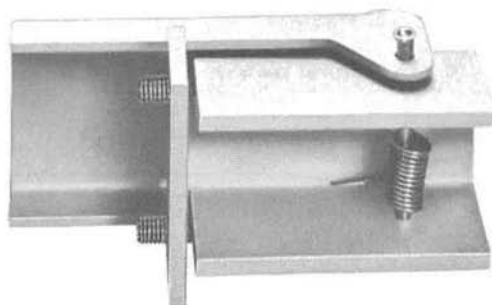
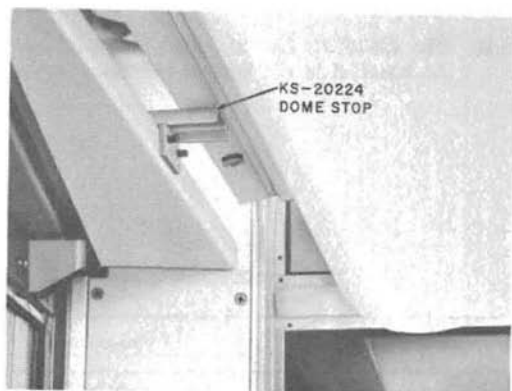

Fig. 2—KS-20224 Dome Stop
Fig. 3—KS-20224 Dome Stop, Installed
2.09 A KS-20224 dome stop (Fig. 2), a spring loaded device, is available to mount along the door track (Fig. 3) to prevent the dome from falling when the fasteners are released.